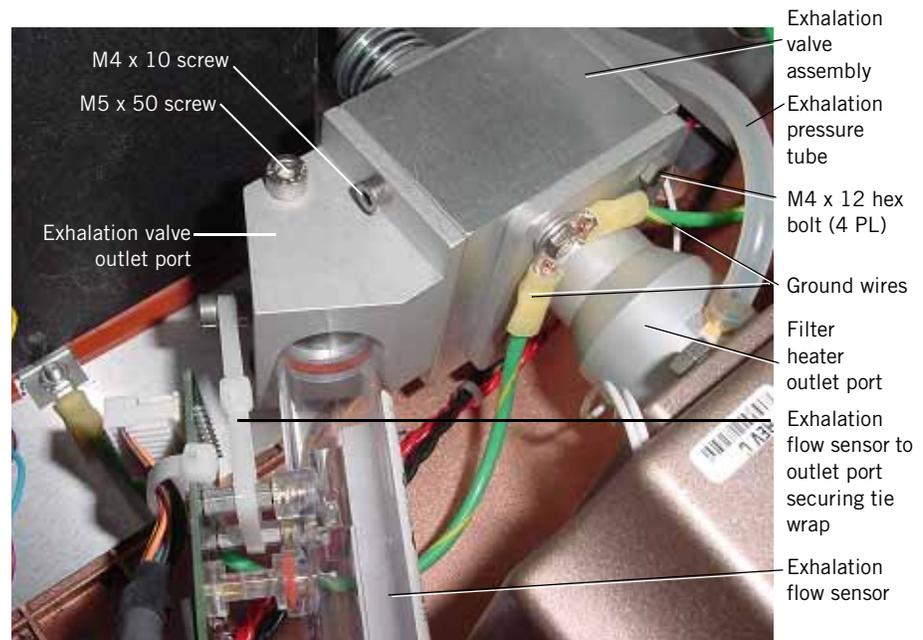

Figure 10-41: Exhalation Valve and Filter Heater Assembly
2. Disconnect the MTR EV cable from the white and black connectors on the exhalation valve (Figure 10-41).
Follow these steps to install the exhalation valve (Figure 10-41).
1. Ensuring the presence and proper position of the O-ring, fasten the exhalation valve to the filter heater outlet port with four M4 x 12 bolts, being sure to attach the two green ground wires (Figure 10-41).
4. Remove the four M4 x 12 hex bolts that hold the exhalation valve to the heater outlet (Figure 10-41).